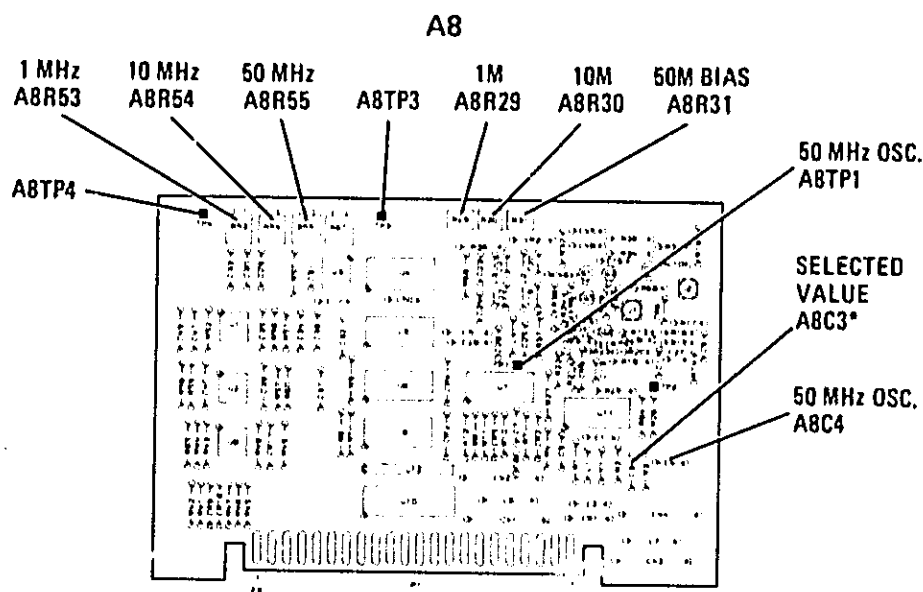
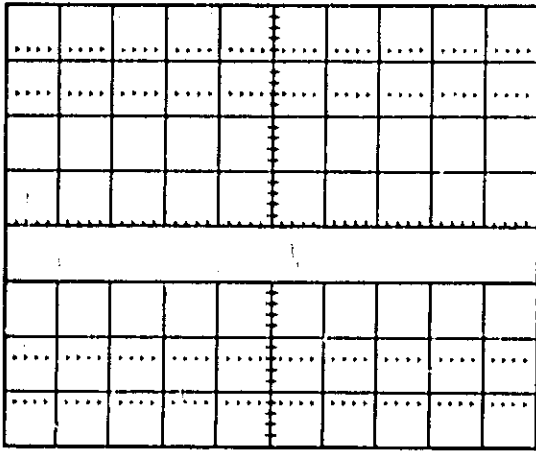

Figure 5-33. Marker Adjustments on A8
Figure 5-34. Marker Envelope
- Set 8350A START/STOP sweep for 10 MHz to 2.4 GHz. Select 83522A AMPTD MARKERS. Connect counter with 1:1 capacitive probe to A8TP1. Adjust A8C4 (Figure 5-33) for frequency counter indication of 50 MHz  $\pm$ 250 Hz. If A8C4 does not have the range required to adjust the 50 MHz crystal oscillator, select a new value for A8C3. (An increase in capacitance will decrease frequency.)
- Select 100 ms Sweep Time. Connect oscilloscope with 1:1 probe to A8TP3 (Figure 5-33). Set 8350A power to +13 dBm and select 1 MHz Markers. Adjust A8R29 (1M) for the flattest envelope height. (See Figure 5-34.) Select 10 MHz Markers. Adjust A8R30 (10M) for the flattest envelope height (Figure 5-33). Select 50 MHz markers. Adjust A8R31 (50M) for the flattest envelope height. (Optimum setting for these adjustments will be ones that provide the most uniform birdie height across the band with the adjustments nearest the center of their range.) Especially note birdie height at the high-frequency end and set the adjustment just before the marker amplitude drops off.
- Connect oscilloscope to A8TP4 (Figure 5-33). Set RF POWER to 0 dBm. Adjust IF gain potentiometers A8R53 (1 MHz), A8R54 (10 MHz), and A8R55 (50 MHz) for each marker frequency to an average envelope height of 1.0 V p-p.